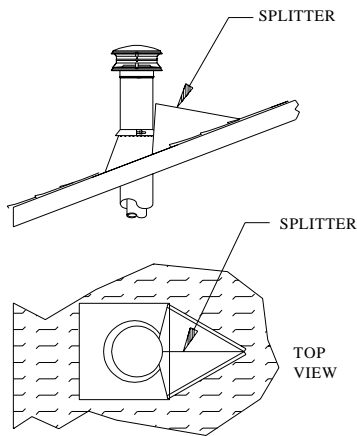
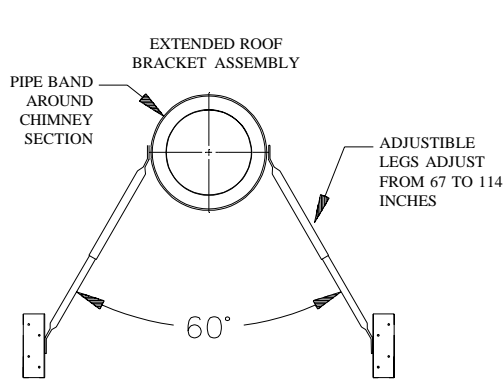

Fig 14
Fig 16
onto the chimney. Do not hold upper portion of the cap and twist, as this may damage the cap. The Chimney Cap can be removed for chimney cleaning as described in the Chimney Maintenance section of the instructions. Use an Extended Roof Bracket if the chimney extends more than 5 feet above the roof. (Figures 16 & 17 in the Extended Roof Bracket section). If you are located in heavy snow country, it is recommended that a "splitter" be installed, and should be fabricated from heavy gauge sheet metal (Fig 14). This will protect the chimney by routing the snow around it. This item is not furnished by Simpson Dura-Vent.
2. Attach the Legs: The Adjustable Legs of the assembly will adjust from 67" to 114". Secure one end of the Legs to the Pipe Band using the nuts and bolts included (1 per Leg). Position the Adjustable legs so they form approximately a 60° angle with the chimney, and with each other (Figures 16 and 17). Be sure that there is at least 3" of overlap between the top and bottom halves of the Adjustable Leg. In order to secure Legs in proper position, there is a hole provided in the outer leg where the outer and inner halves overlap. Use a 1/4" drill bit to drill through the inner leg at that location. Use the nut & bolt provided to pin the Adjustable Legs in position.
3. Install Roof Brackets: Mount the two Roof Brackets where each of the Adjustable Legs meets the roof, using (6) 1" roofing nails per bracket. Seal the nail heads carefully with a non-hardening, waterproof sealant. Attach the bottom end of the Adjustable Legs to the Roof Brackets using the nuts & bolts provided.